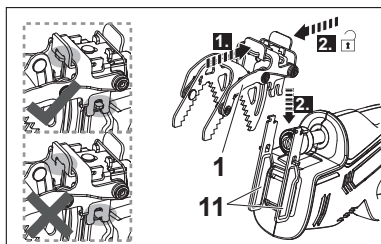

Fig. 12
2. To attach, align the spiked bracket (1) with the bracket rail (11) and slide it onto the rail while pressing the clamp lever (2).
3. Release the clamp lever (2) and ensure it is locked in place (Fig. 12).
4. Pull on the clamp lever (2) to test if the spiked bracket (1) sits properly in place. It should not be possible to pull it off.